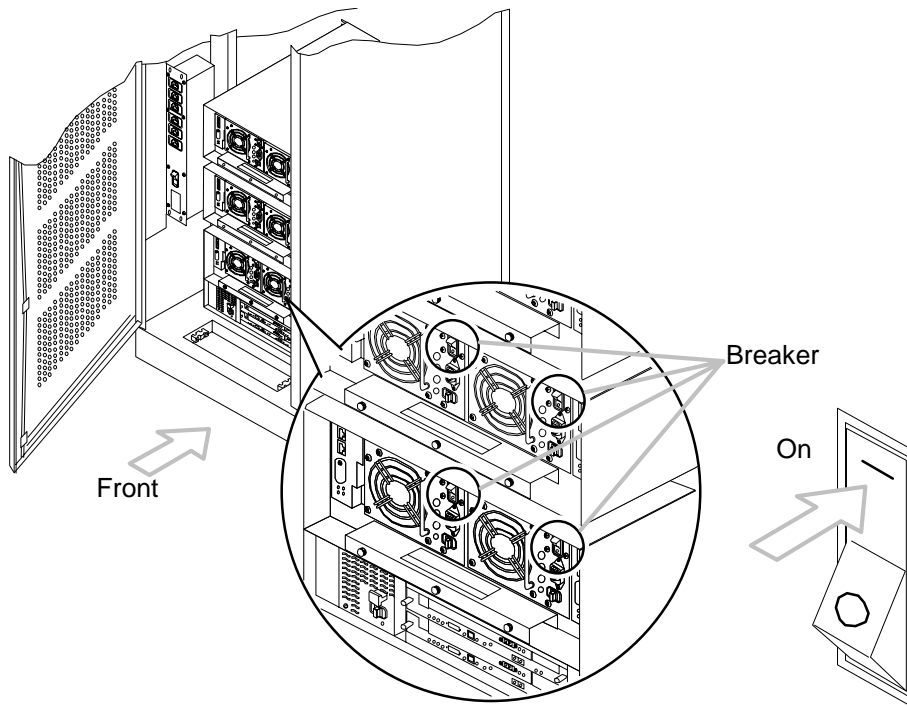

Figure 4.12 Location of Breaker
4. Open the rear door of a U6 rack frame, and set the AC/DC power breakers to on. (see figure 4.12)